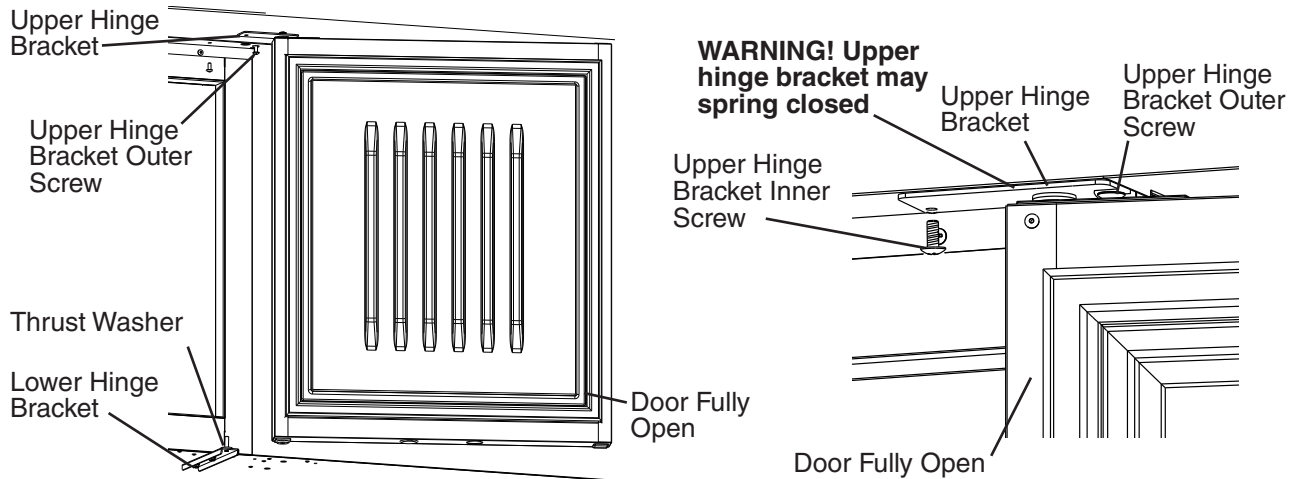

Fig. 33
- 17) Be sure the lower hinge bracket thrust washer is in place, then place the door on the lower hinge bracket in the fully open position. Slide the door upper hinge bracket outer slot onto the upper hinge bracket outer screw. See Fig. 33.